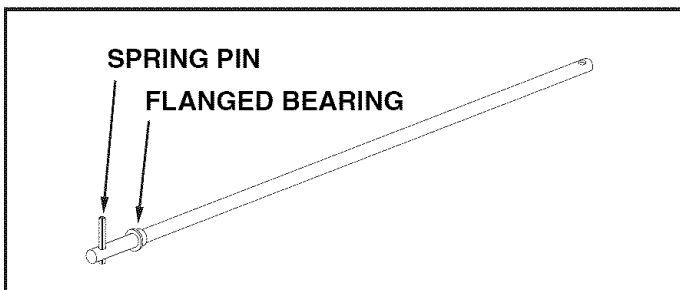

FIGURE 2
- Using a hammer, drive a spring pin into a hole in the axle until the pin just extends through the other side of the axle. Next, assemble a flanged bearing onto the axle as shown. See figure 2.